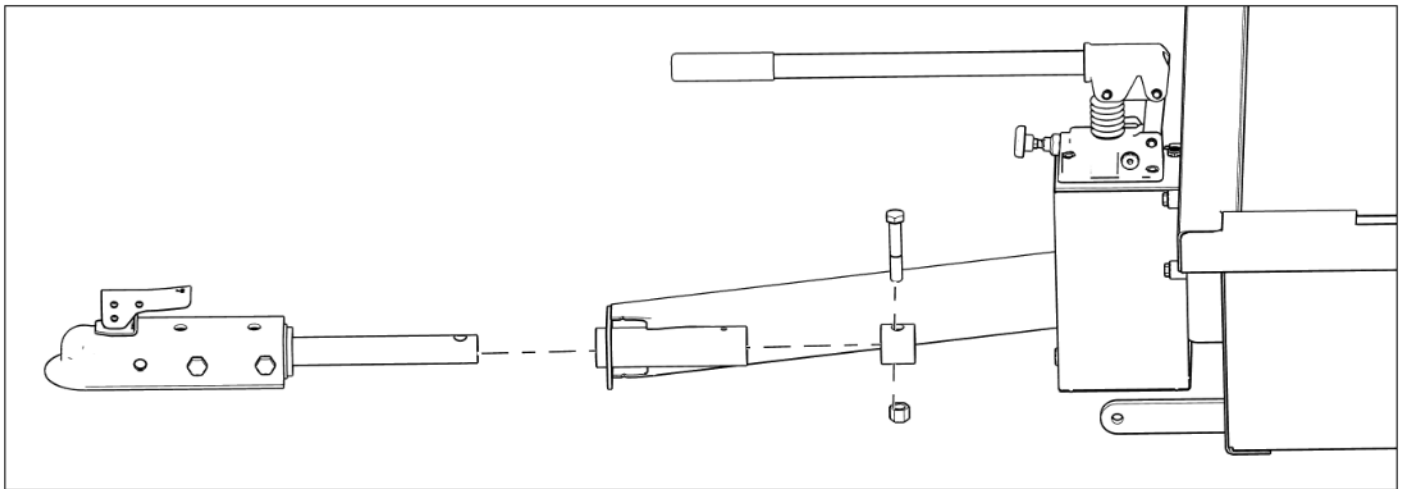

Figure 3 - Insert Ball Coupler into Dump Trailer tongue and secure with spacer and hardware. Jack stand and portion of tongue removed for illustration purposes.
4. Insert 2" Ball Coupler into dump trailer tongue (see Figure 3 below).